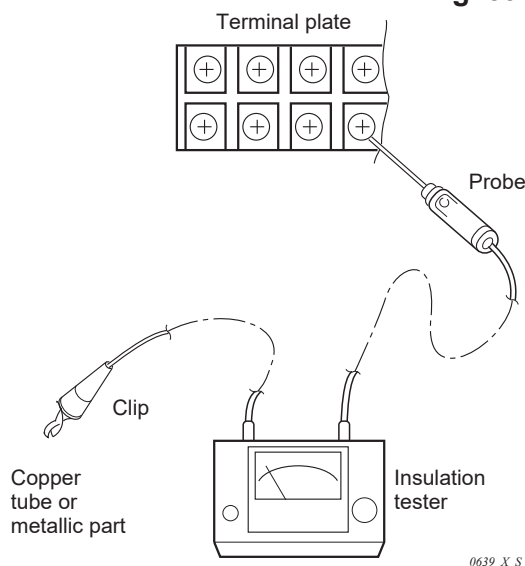

Fig. 40
Clamp an aluminum plate fin or copper tube with the lead clip of the insulation resistance tester and measure the resistance by placing a probe on high voltage terminal on the terminal plate (Fig. 40)
Clamp a metallic part of the unit with the lead clip of the insulation resistance tester and measure the resistance by placing a probe on ① and then ② on the 8 or 6P terminal plate. (Fig. 40)
Clamp a metallic part of the unit with the lead clip of the insulation resistance tester and measure the resistance by placing a probe on ⑤ and then ⑥, and then ⑦ on the 8P terminal plate. (Fig. 40)